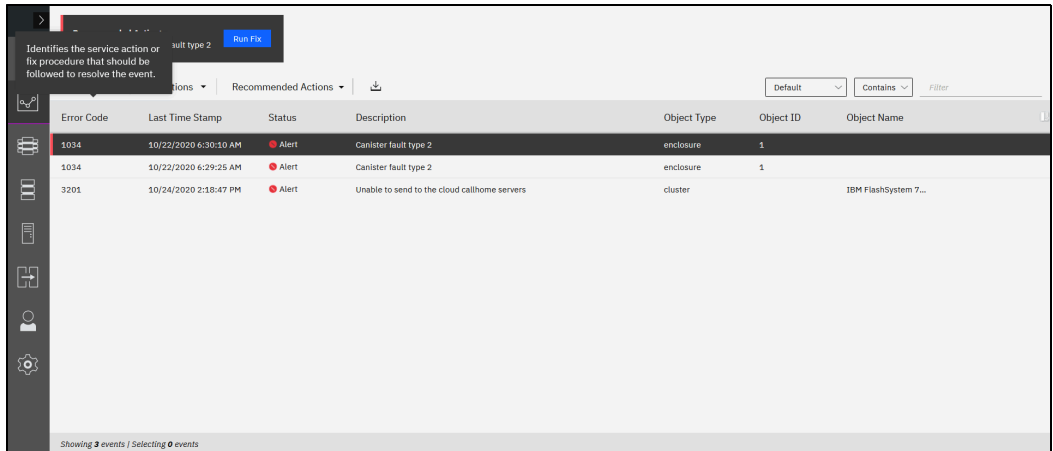

Figure 13-36 Messages in the event log
1. Select **Monitoring** → **Events** to see all problems that exist on the system (see Figure 13-36 on page 831).